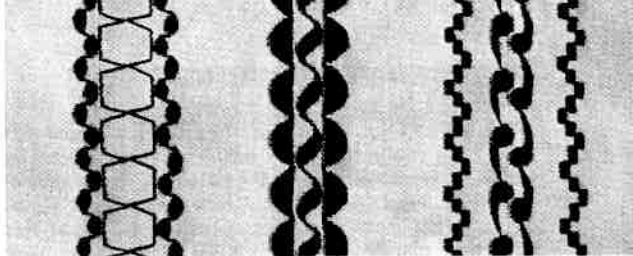

Fig. 75
- Different seam patterns combined together (see fig. 75).